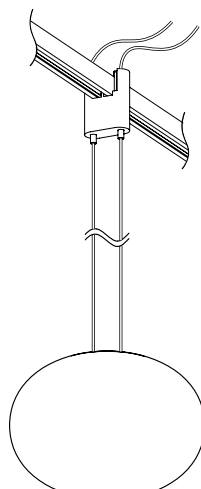
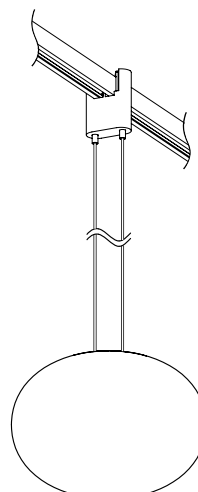

Fig. 4
Fig. 5
2. Adjust to the desired length: To shorten, push the **Power Cable** up; to lengthen, push in the **Plunger** while pulling down on the Power Cable, release the Plunger to lock (Fig. 4). Once height is set, cut off the excess cable where it exits the **Height Adjustable Luminaire Hanger** (Fig. 5).